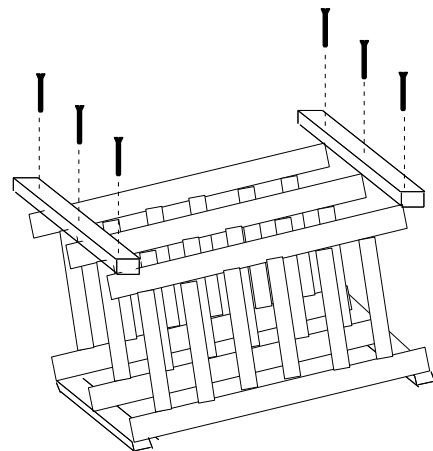

figure 3
4. Flip and repeat step three. (see figure 3)